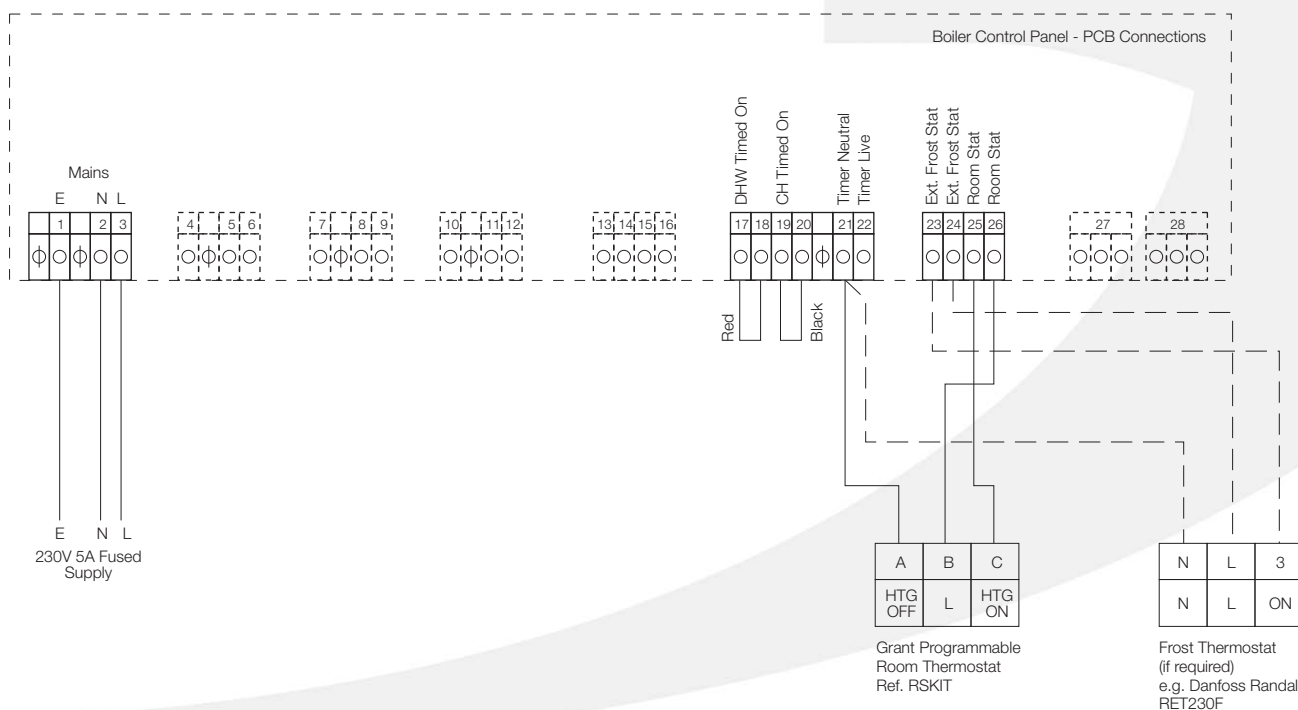

Figure 8-6: Connections for the Grant Programmable Room Thermostat (RSKIT)
5. Refer to Figure 8-6 for the thermostat connection details.
1. Connect the wires from the frost thermostat to terminals 23 & 24 on the connection block. Refer to Figure 8-6, Figure 8-3 and Figure 8-9 for further details.